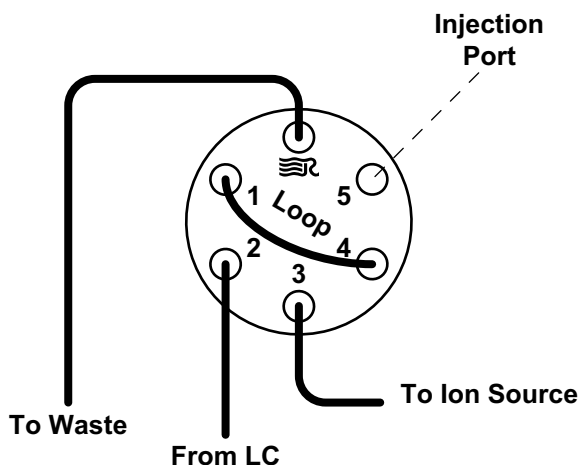

Figure 8-4. Divert/inject valve, showing plumbing for manual loop injection
4. Remove the sample transfer line that is installed between the syringe adapter assembly and port 5 of the divert/inject valve. Port 5 is now used as the injection port. See Figure 8-4.